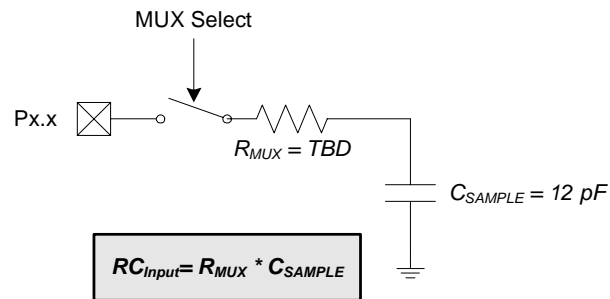

Figure 5.6. ADC0 Equivalent Input Circuits
Figure 5.6 shows the equivalent ADC0 input circuit. The required ADC0 settling time for a given settling accuracy (SA) may be approximated by Equation 5.1. When measuring the Temperature Sensor output or  $V_{DD}$  with respect to GND,  $R_{TOTAL}$  reduces to  $R_{MUX}$ . See Table 5.3 and Table 5.4 for ADC0 minimum settling time requirements.